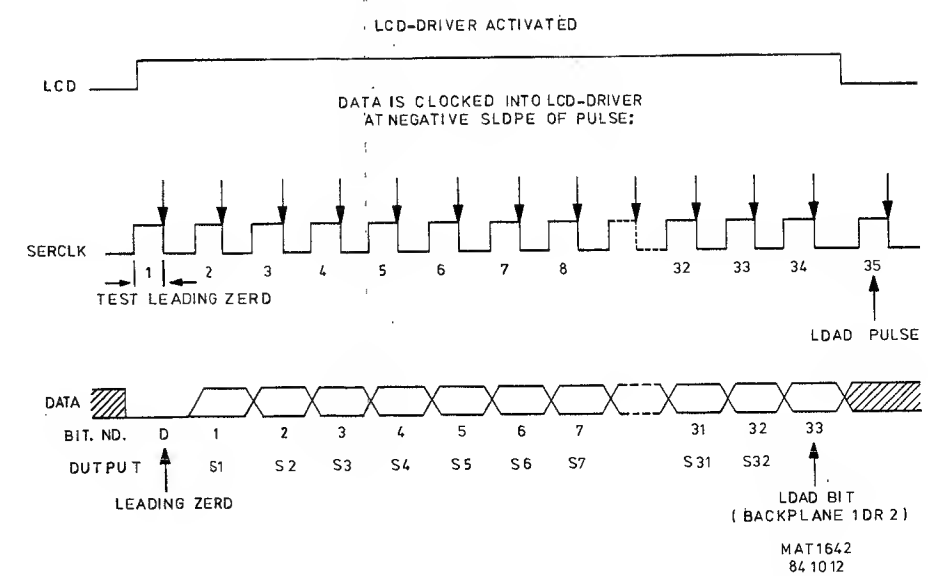

Fig.4.3. Time relation of input signals of LCD-drivers
- DATA1 (pin 39) is the signal information input. The clock input receives a row of 35 pulses (see Fig.4.3). In parallel with these clock pulses, a row of 34 data-bits is applied to the DATA input. The data is valid at the negative-going edge of each clock pulse. The row of data-bits starts with a zero start bit. Then the following 32 data-bits determine which of the 32 segments of a row must be activated (data-bit high) and which must remain inactive (data-bit low). The last data-bit determines for which backplane the data is intended, LCD backplane 1 (data-bit high) or LCD backplane 2 (data-bit low). This 35th clock pulse ends the information loading cycle.